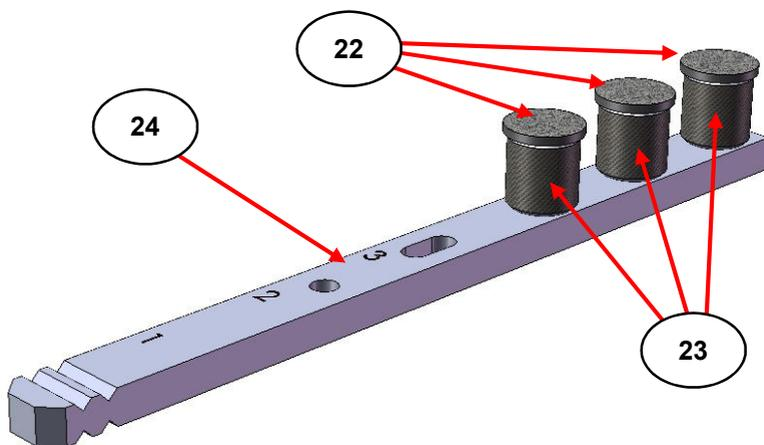

Fig 13. Minidiff Plus Diabrazed Pad Mount Holder Assembly
The diabrazed pad (22) is 9mm diameter and 1mm thick and consists of a rough surface of fine diamond chips embedded into a cloth fabric to produce an abrasive surface for sampling. The diabrazed pad (22) has an adhesive backed surface to allow it to stick to its mount (23). The protective backing of the adhesive surface is simply peeled away to fix a diabrazed pad (22) centrally to the surface of its support mount (23). The diabrazed pad (22) and mount (23) assembly is placed into the Minidiff Plus for a **sampling position** being supported on its own diabrazed pad mount holder assembly (24). (See Fig 13.)
As mentioned in Section 5) for the sample cup holder mount assembly (9), the diabrazed pad mount holder assembly (24) has three sampling positions to place a diabrazed pad (12) as affixed to its mount (23). (See Fig 13.) Hence on the diabrazed pad mount holder assembly (24), you may already wish to have position 1 occupied for a blank (no sample coating) diabrazed pad (22) and mount (23) and the spare diabrazed pad (22) and mount (23) positions 2 and 3 for actual samples. It is then a simple matter of turning the sample position screw (13) accordingly to change the reference blank diabrazed pad (22) from its **sampling position** to load a sample coated diabrazed pad (22) at the 2 or 3 position into the **sampling position**.